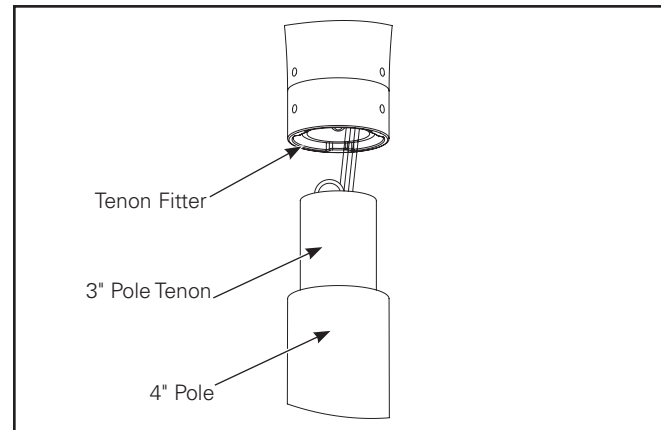

Figure 3.
4. Slip fit the fixture onto the tenon. (Figure 3.)